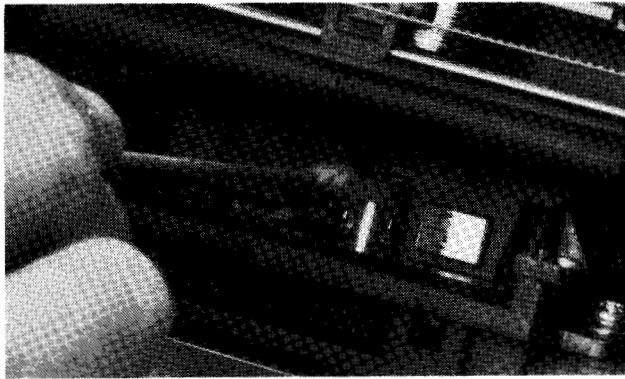

Figure 7-2. Cleaning the Capstan
- d. Hold the swab at the left of the rotating capstan during the fast-forward phase of the Speed Test. (See figure 7-2.)